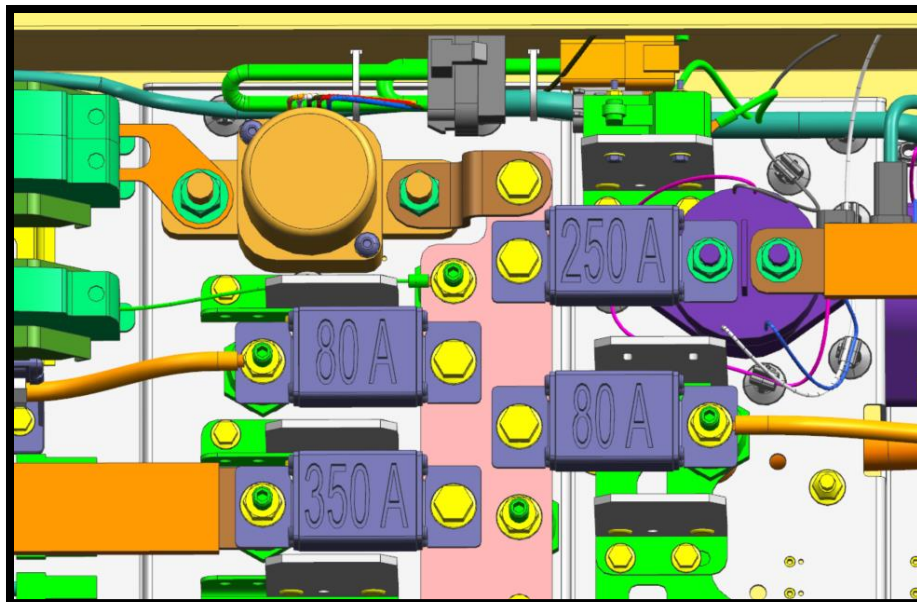

Figure 2-Location of connectors after rework
- 2.3. Locate connector AUXHTR PWR CONTACTOR-SHR. Shown in figure 1. Pull the connector back toward the limit switch as per figure 2 and secure to the harness using Tyrap- 5962614.
- 2.4. Locate connector XBBEP16, Shown in figure 1. Pull the connector back away from the fuses toward the limit switch as per figure 2 and secure to the harness using Tyrap- 5962614.